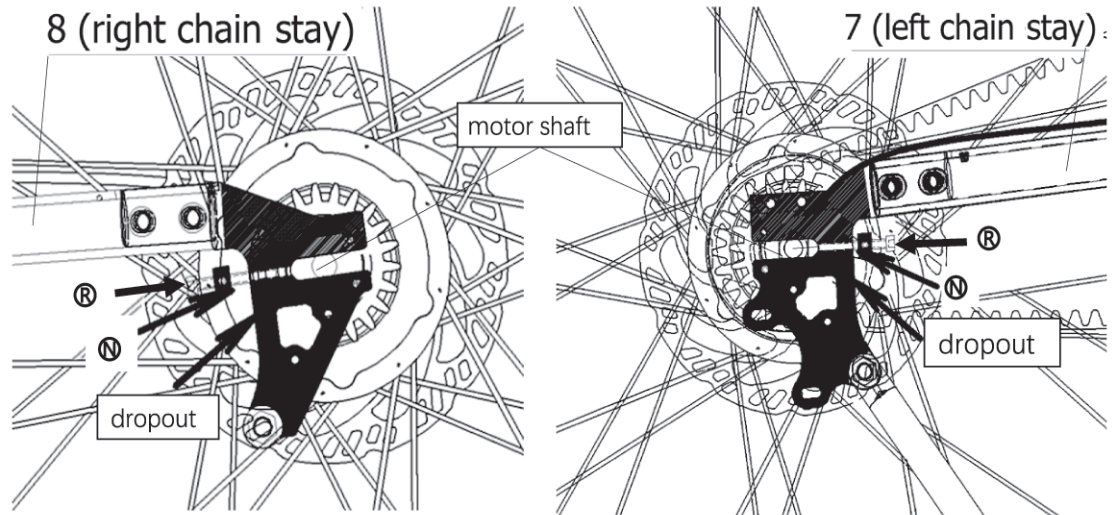

Figure 32.
g. Use the 4 mm Allen key to tighten the screws [®] on the left and right dropouts to make the set screw touch the dropout. Contact can be made without overtightening the screws. Then, observe carefully and confirm that the tail end of the screw is against the motor shaft. There is a screw on both the left and right dropout, each of which needs to be operated according to this, as shown in Figure 32.